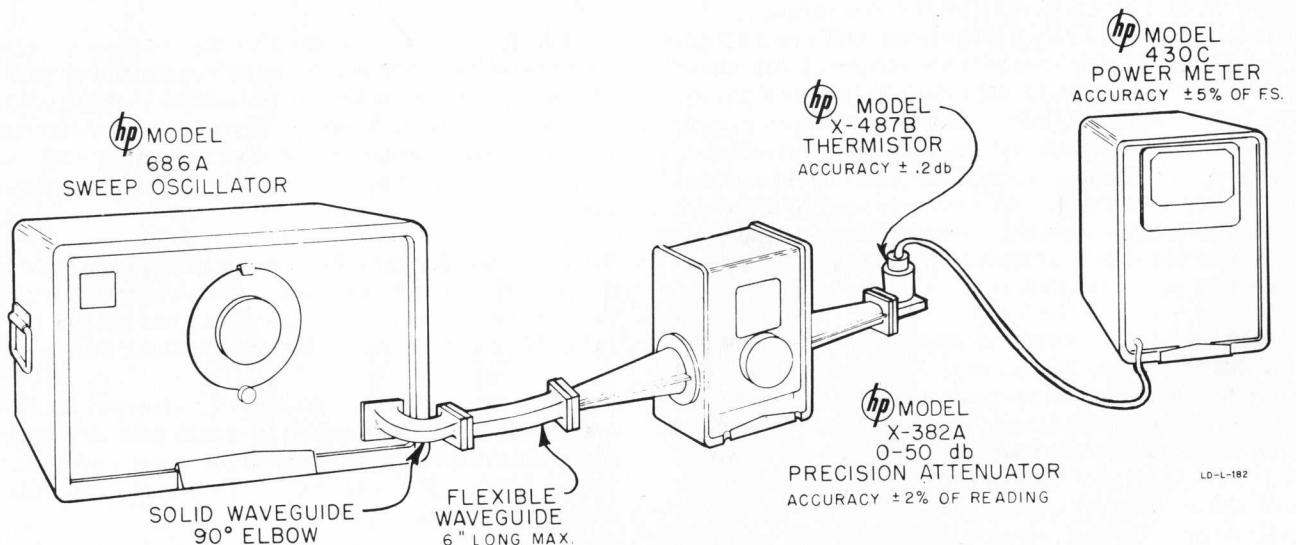

Figure 4-1. Measuring RF Power Output
- 1) Set up equipment as shown in Figure 4-1.